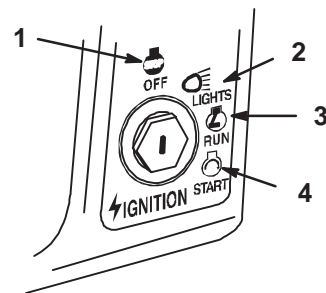

Figure 5
6. Turn the ignition key and hold it in the start position (Fig. 5). When the engine starts, release the key.
3. Turn the ignition key to off (Fig. 5).